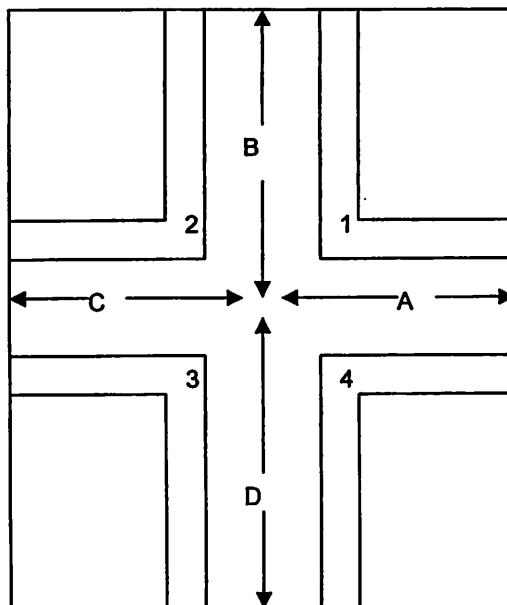

Figure 6.7
11. At the image output, count the units from the center of the grid to each edge of the image as shown by lines A, B, C and D of Fig. 6.7.